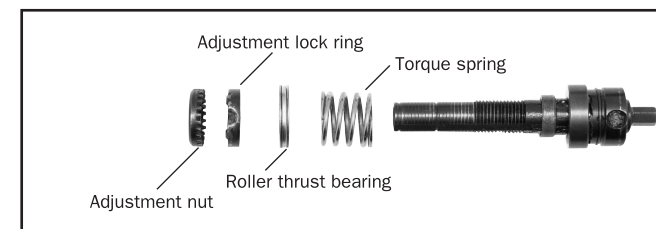

Fig. 6
5. The adjustment nut and ring along with the roller thrust bearing, can now be removed. The Torque spring can be removed and replaced with a different torque spring (See fig. 6).